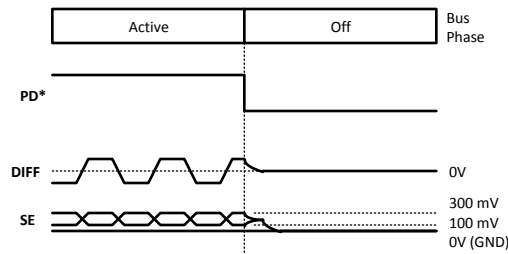

Figure 9. MPL-2 - LM4312 Link Off Timing
(6) Specified functionally by the I_{DDZ} parameter. See also Figure 9.
(7) This is the minimum time that the PCLK needs to be held off for in order for the device to be reset. Once PCLK is reapplied, a PLL Lock is required and start up sequence before video data is serialized.
In the Serial Bus OFF phase, SER differential outputs are all driven to Ground. Figure 9 shows the transition of the MPL-2 bus into the OFF phase.